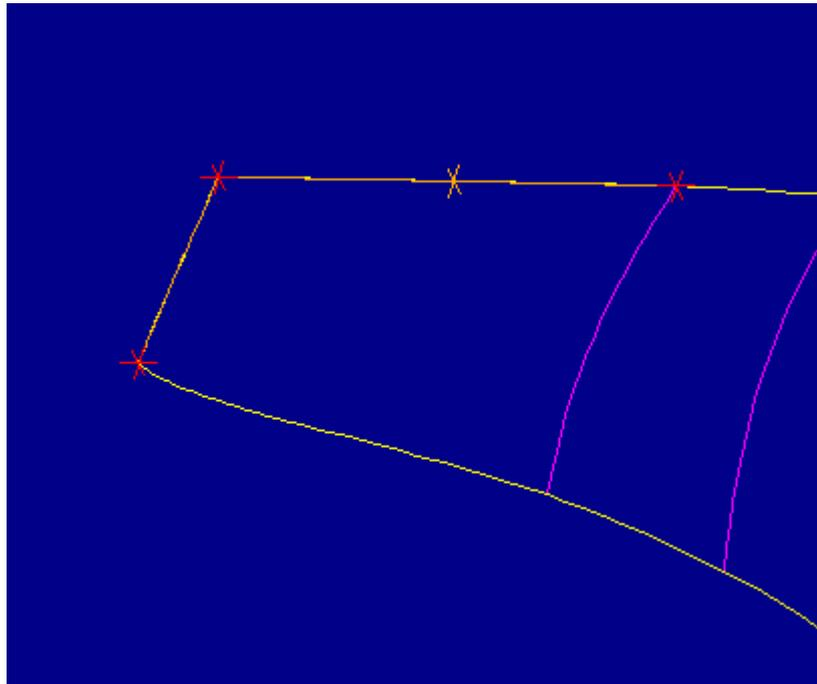
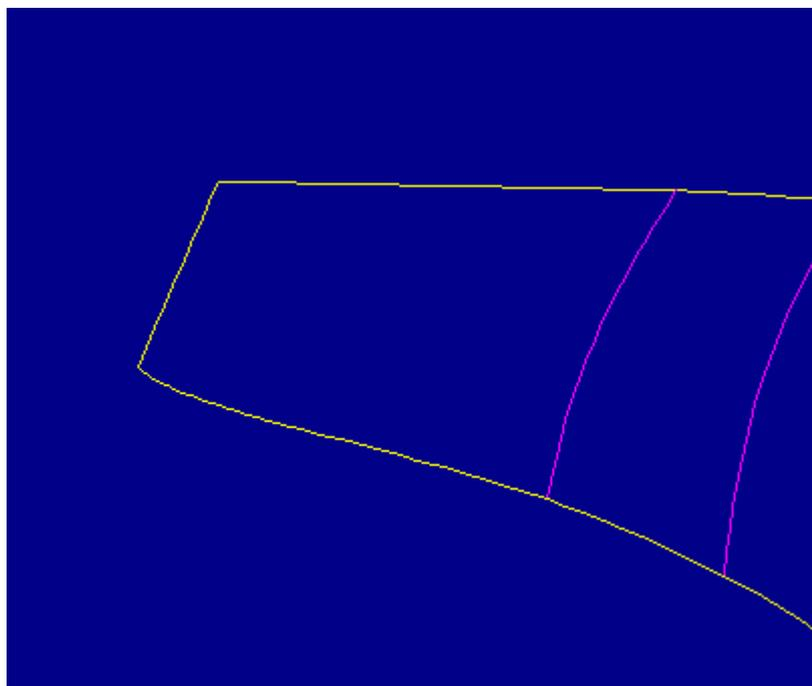
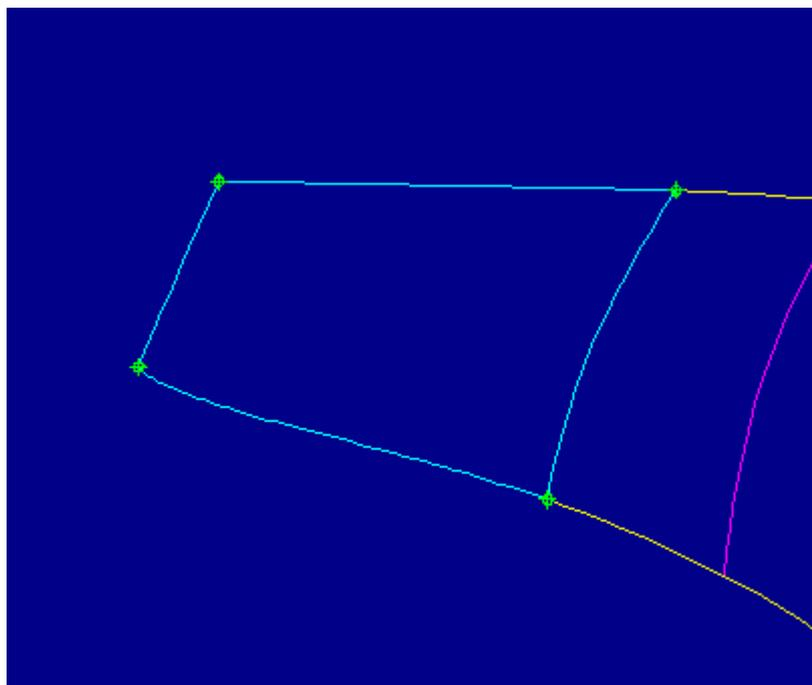

Figure 43
Figure 44
Figure 45
28. Figure 43 shows an edge chain along the top of the surface that has been selected for replacement. Notice that chain ends are indicated by red crosses and internal vertices are indicated by orange crosses. In the FIXQULTBNDRY menu select **Done**. Figure 44 shows the surface with the highlighted chain replaced. To view the changes, in the REDEF IMPT menu select **Edit Bndry**, the surface, and **From-To** in the CHAIN OPT menu. Figure 45 shows the vertices available for chain selectic. Notice that there is no longer an internal vertex along the top edge.